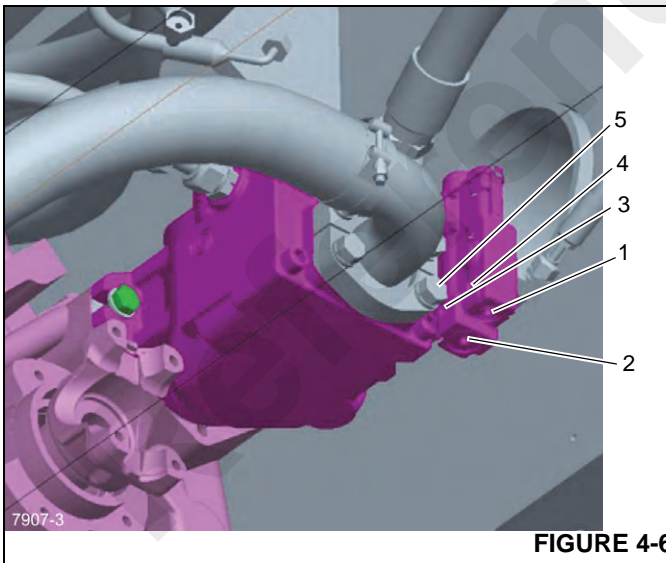

FIGURE 4-6
4. Disconnect the hydraulic hose from bulkhead elbow Figure 4-6 which connects to the rod port of the telescope cylinder. A little oil will drain from the elbow.
4. If pressure is incorrect, loosen the margin set screw from the pump compensator valve (4, Figure 4-6).
5. Adjust the margin pressure setting by turning the margin adjusting screw (1, Figure 4-6) until 24 ± 1.7 bar (350 ± 25 psi) pressure is obtained on the gauge; clockwise
- a. Remove the bolt on the suction hose split flange by the compensator set screw (5, Figure 4-6).
- b. Loosen the set screw from the pump compensator valve (3, Figure 4-6).
- c. While engaging the boom down function with the engine at full throttle, adjust the pump max pressure setting by turning the compensator adjusting screw (2, Figure 4-6) until 276 ± 3.5 bar (4000 ± 50 psi) pressure is obtained on the gauge; clockwise increases pressure, counterclockwise reduces the pressure.